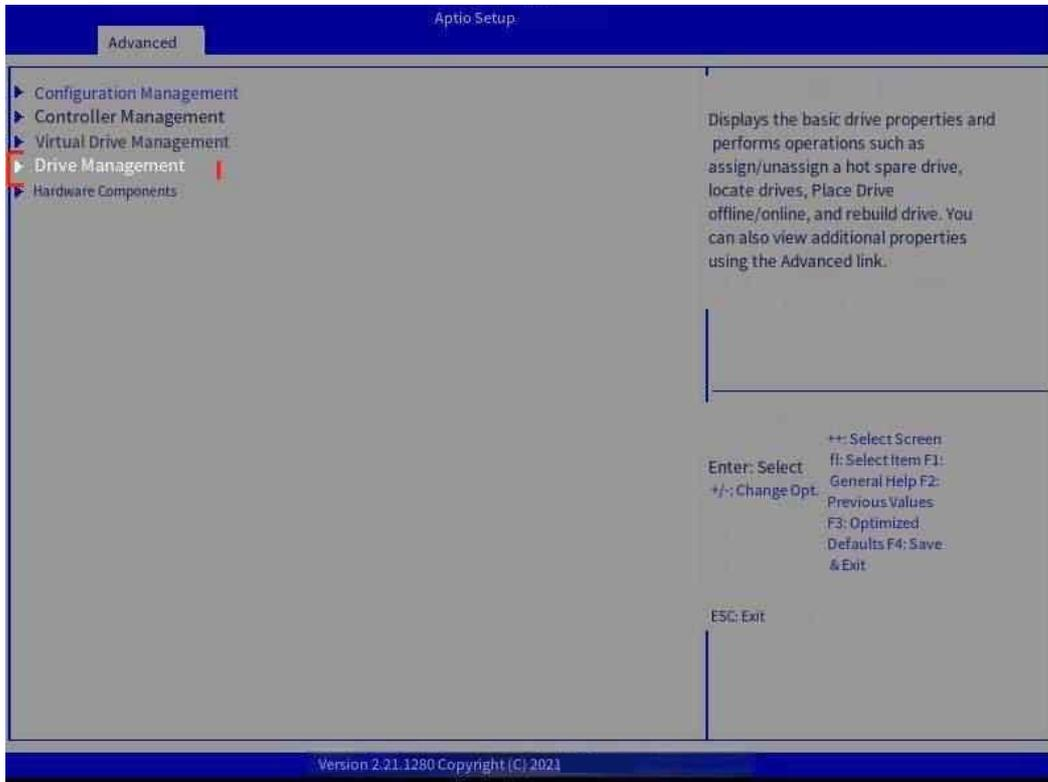
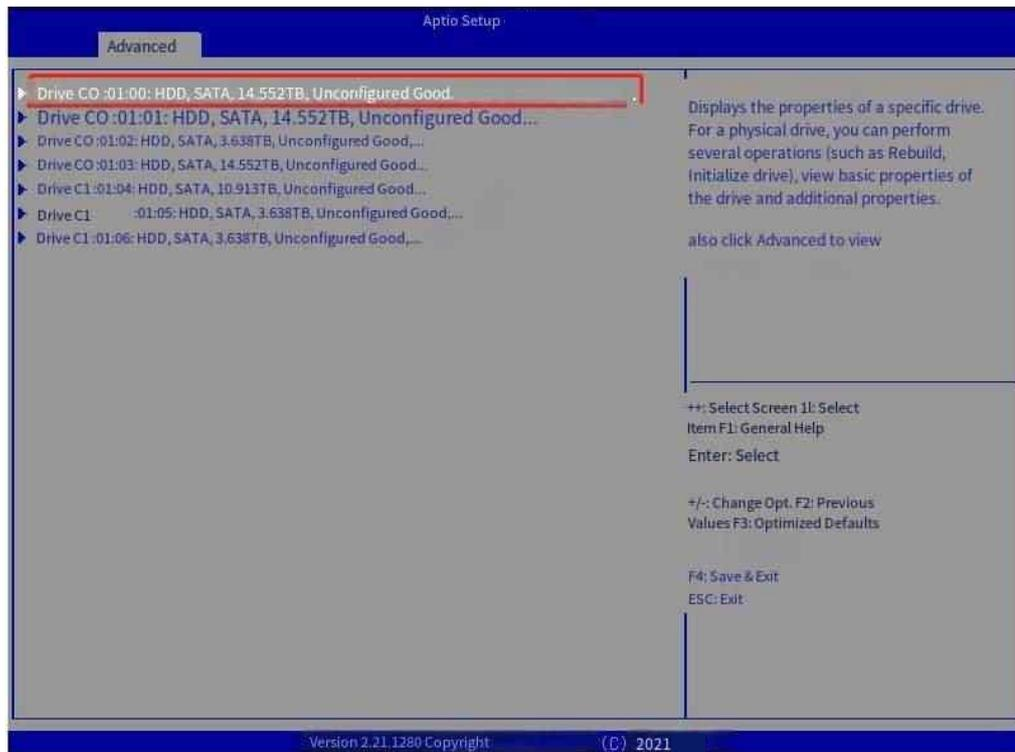

Figure 7-36 Select Drive Management and press Enter
Figure 7-37 Selecting a hard drive Press Enter to set hot spare
Step 1: On the home screen, select Main Menu and press Enter, select Drive Management, and select a hard drive for hot spare drive Settings (Figure 7-36, Figure 7-37).